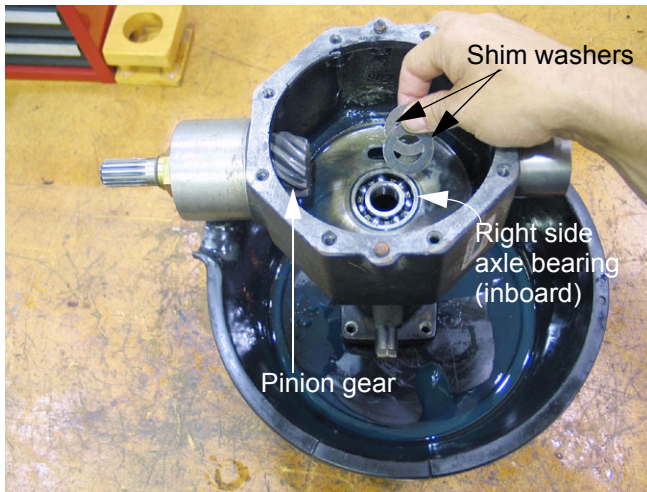

Figure 9.13
9.13. Beneath the differential housing are shim washers, between the right side differential bearing and the right side inner axle bearing. See Figure 9.13.